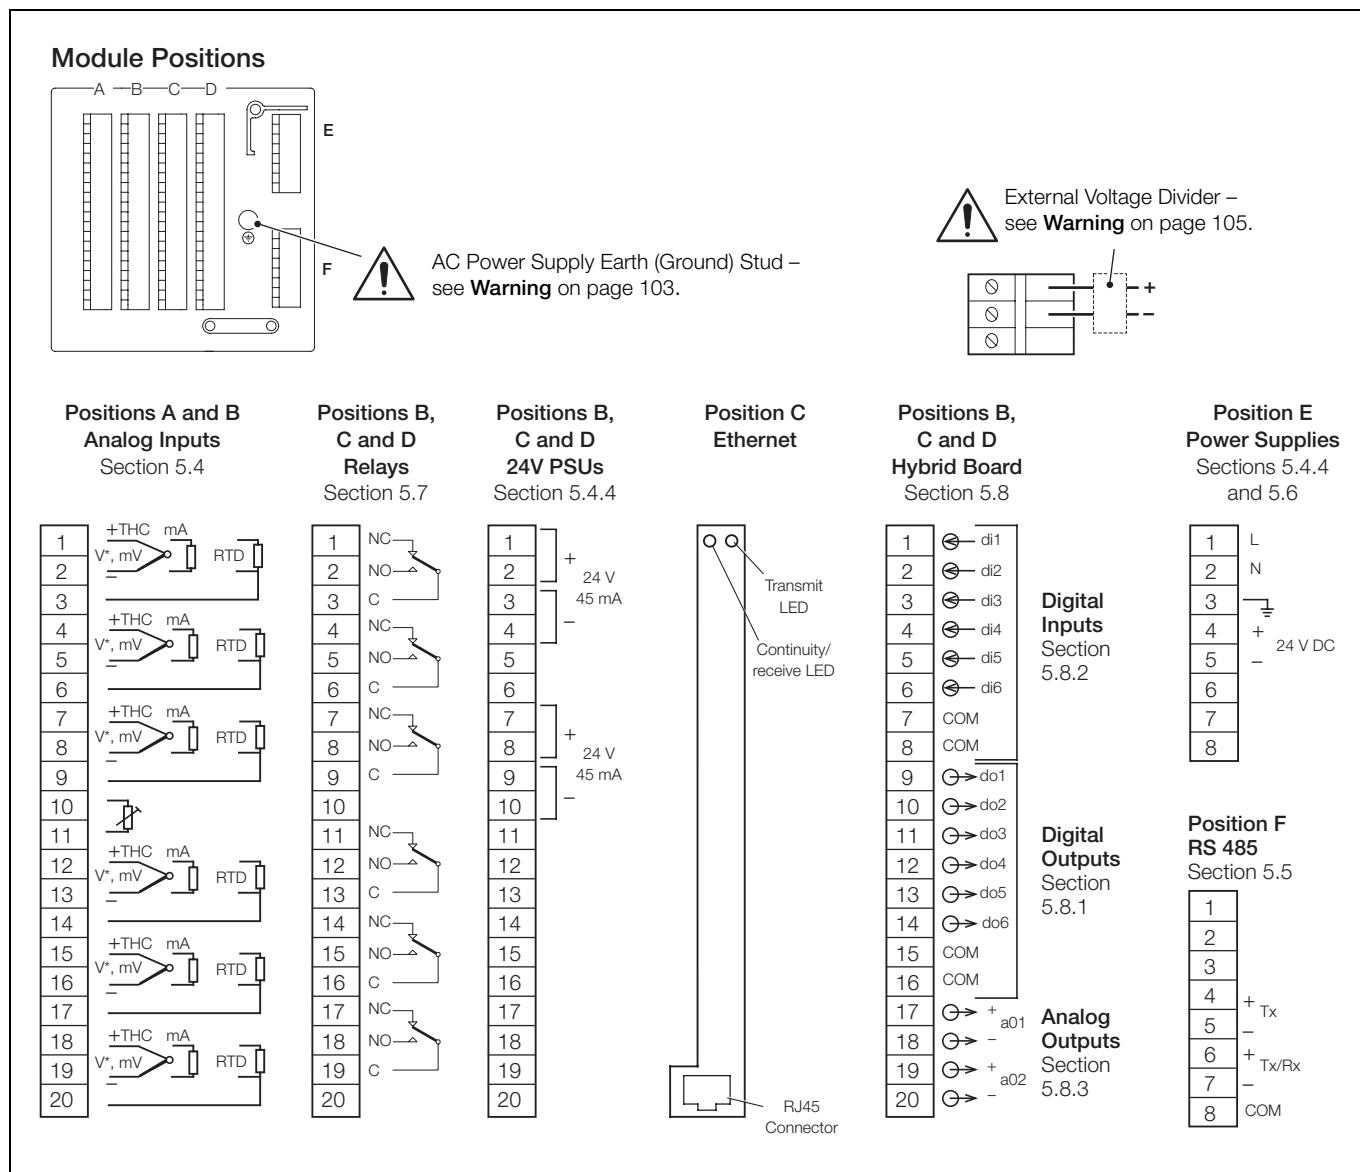

Fig. 5.5 Electrical Connections
5.3 Electrical Connections – Fig. 5.5
- It is strongly recommended that screened cable is used for signal inputs and relay connections. Connect the screen to the earth (ground) stud – see Fig. 5.5, page 104.
Note. Refer also to Fig. 5.5 for terminal numbers.